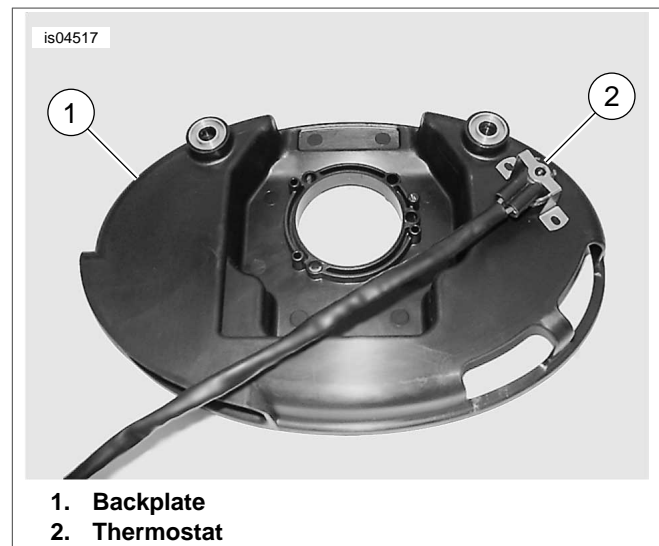

Figure 4. Thermostat Mounting
3. See Figure 4. Follow Service Manual instructions to remove air cleaner backplate.